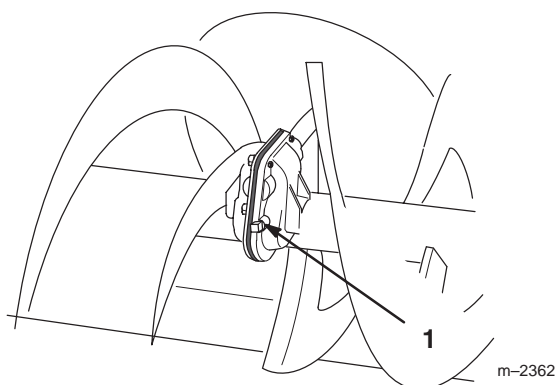

Figure 41
3. Clean area around plug with a rag and remove plug (Fig. 41).
4. Add SAE 90 gear oil until it is level with the bottom of the hole in the housing (Fig. 41).